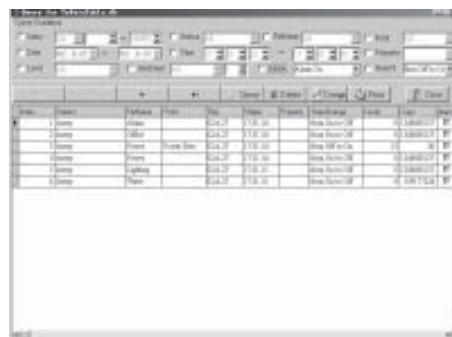

Fig. 7-3 Tele-communicating Data Query
(1) Data Query: As in Fig. 7-3, select the conditions to be queried in the figure and then click the **quick icon.**